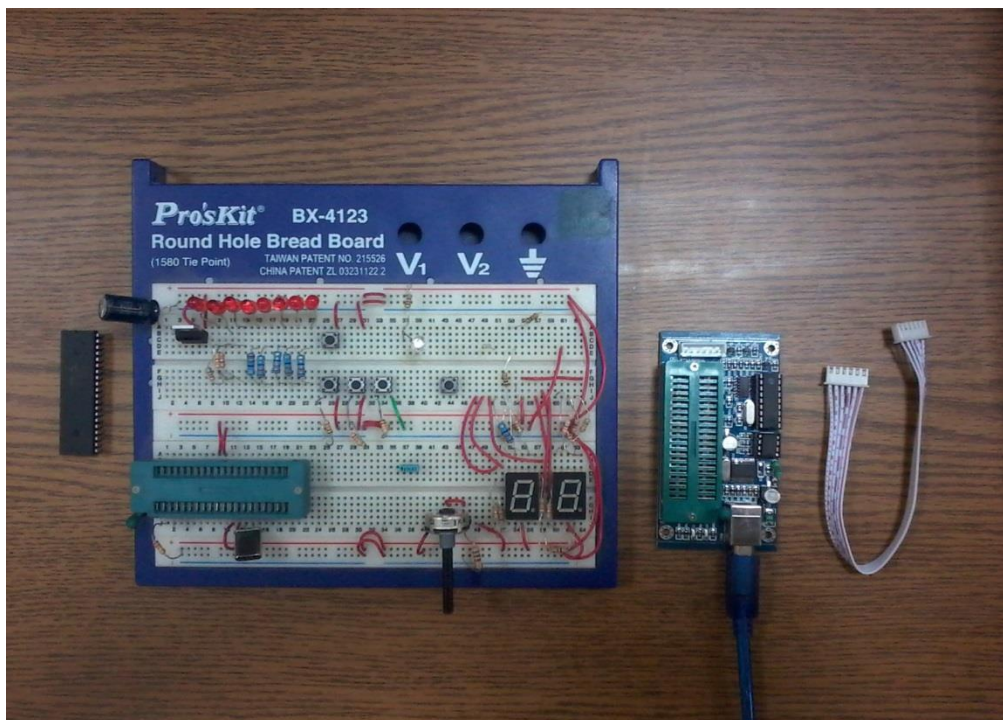

Figure 2.1: Equipment and devices used in the experiment.
3. Breadboard and electronic components as shown in Figure 2.1